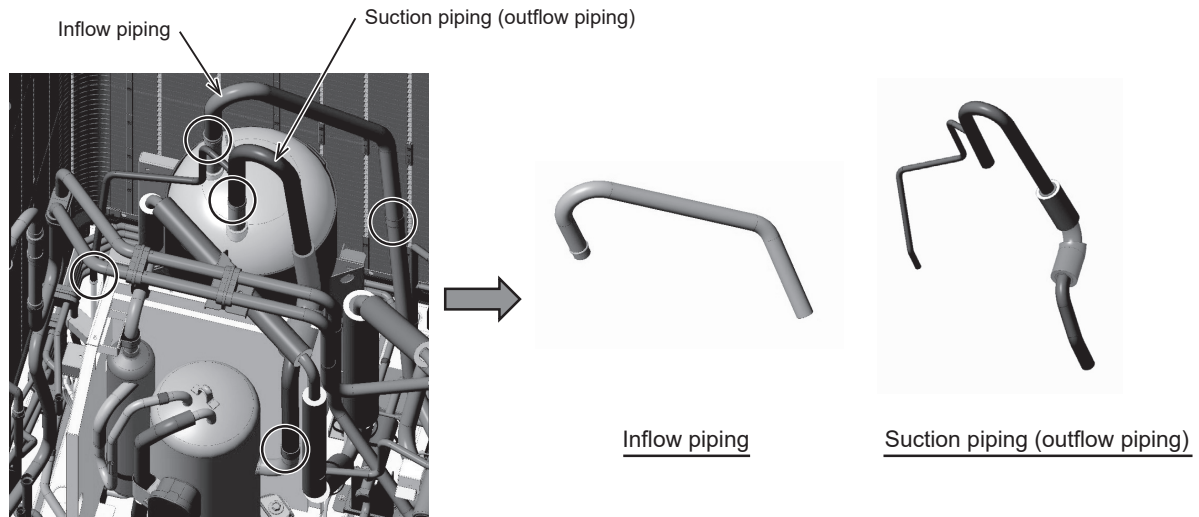

Figure 10
- (10) Remove the braze from the inflow and outflow pipings on the accumulator. (Debrazing: 5 places, Figure 10)